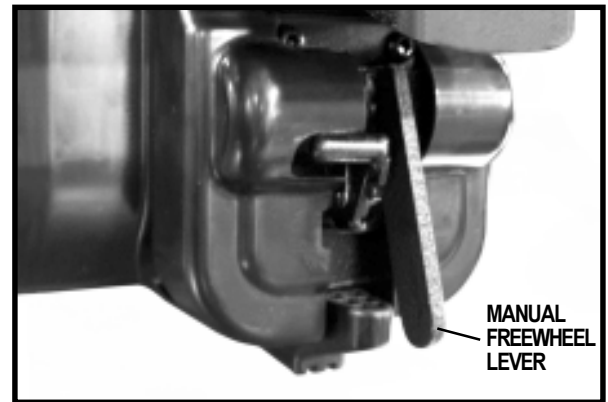

Figure 9. Drive Mode (Drive Engaged)
2. Push the manual freewheel lever down for drive mode (drive engaged). See figure 9.